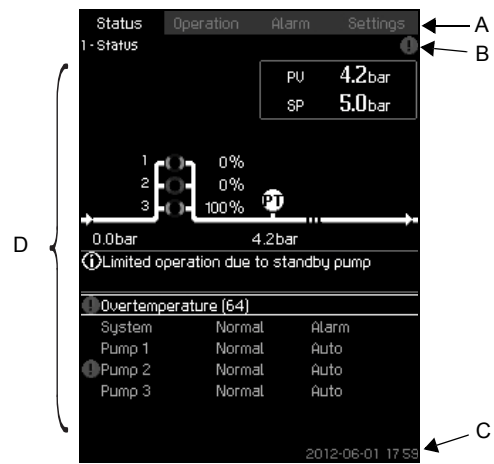

Fig. 8 Display design
The menu line (A) is illustrated in fig. 8.
The top line (B) is illustrated in fig. 8. It shows the following: